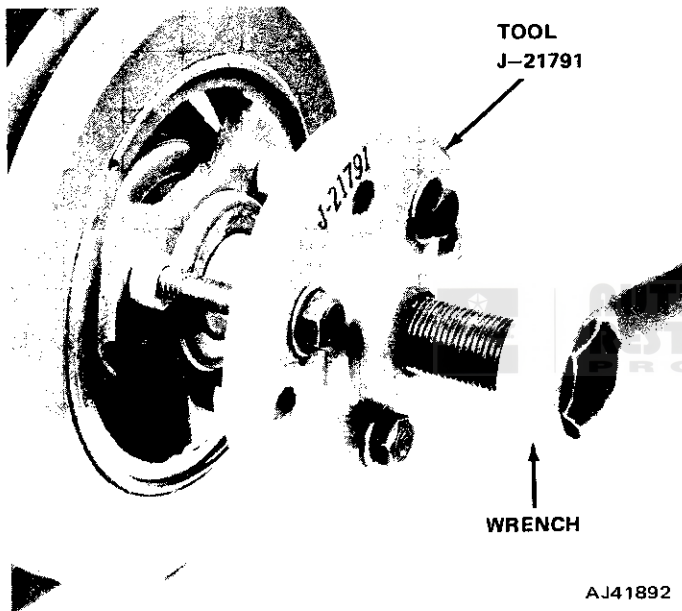

Fig. 1B-56 Vibration Damper Removal
- (1) Remove drive belt(s).
- (2) Remove three retaining capscrews and separate vibration damper pulley from vibration damper.
- (3) Remove vibration damper retaining screw and washer.
- (4) Use Vibration Damper Remover Tool J-21791 to remove damper from crankshaft (fig. 1B-56).